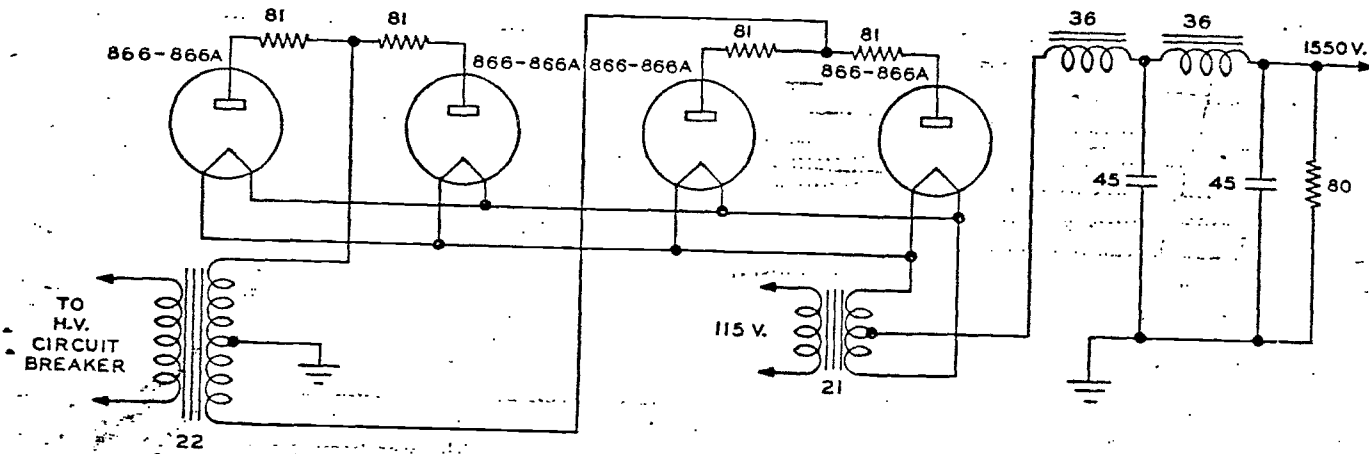

Figure 2-8. High Voltage Supply
d. HIGH VOLTAGE SUPPLY. (Refer to figure 2-8.)—The high voltage supply employs four half wave rectifiers in a full wave rectifier system. Plate voltage is applied to the high voltage rectifiers after *401W*